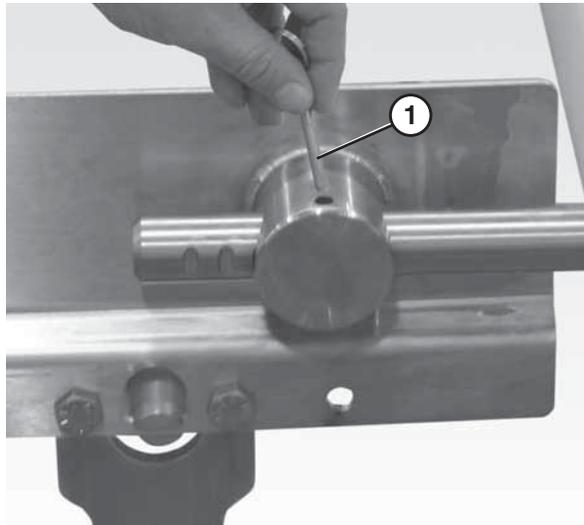

Figure 77
1. Remove the pull pins (Figure 77, item 1).